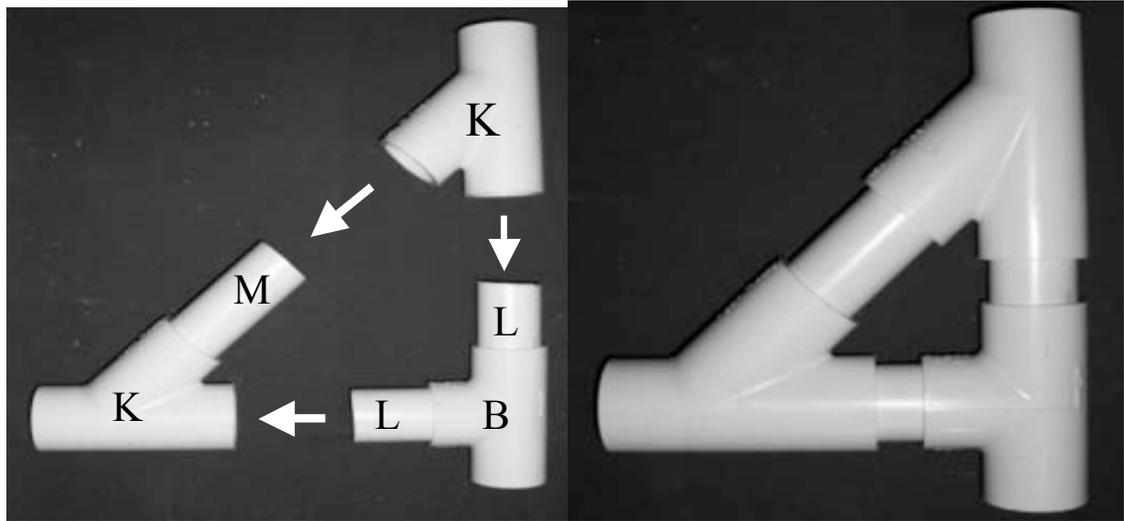

FIGURE 9 – Step 5 (Left) and Finished Section (Right) – Wheelchair Side Frame.
**Step 5.** Coat the inner surface of the three openings on the two Part K fittings shown by arrows in Figure 9 with PVC glue. Carefully align the openings and PVC pipe to slide into each other simultaneously. Use the mallet to properly seat each connection at an even rate by